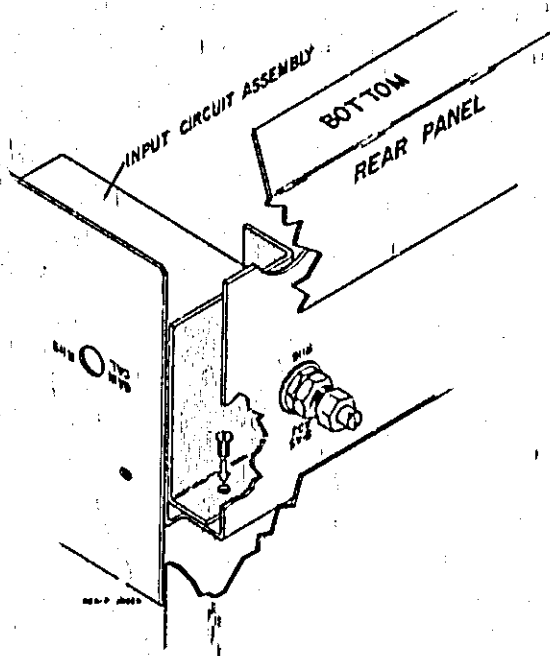

FIGURE 1
4. Carefully slip the modulator shield between the input circuit assembly and the rear panel as shown in Figure 1.